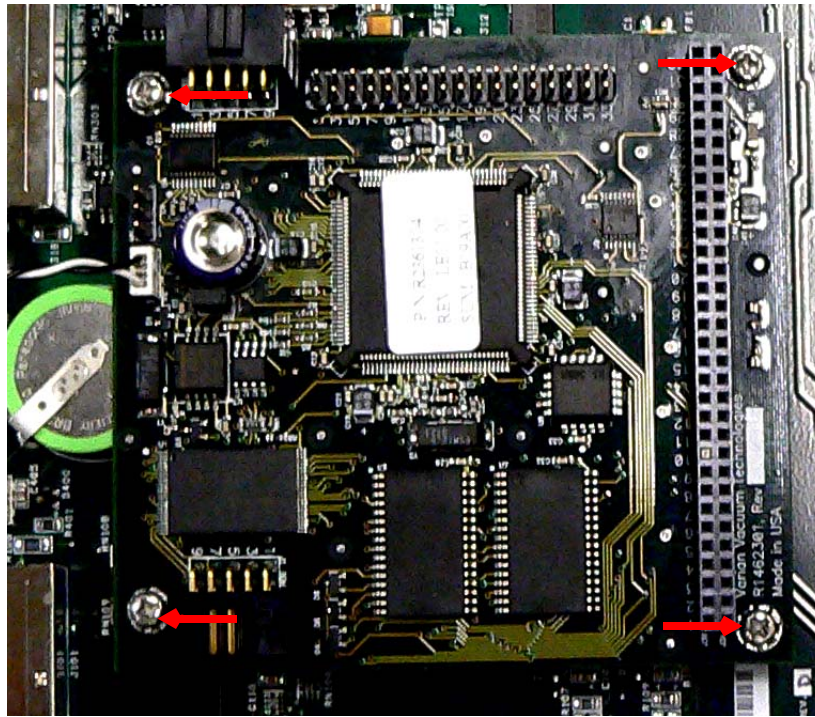

Figure B-28 Mounting Screws
5. Remove the four (4) Philips head screws and washers (Figure B-28).
10. Reinstall the four (4) Philipps head screws and washers (Figure B-28 on page B-20).